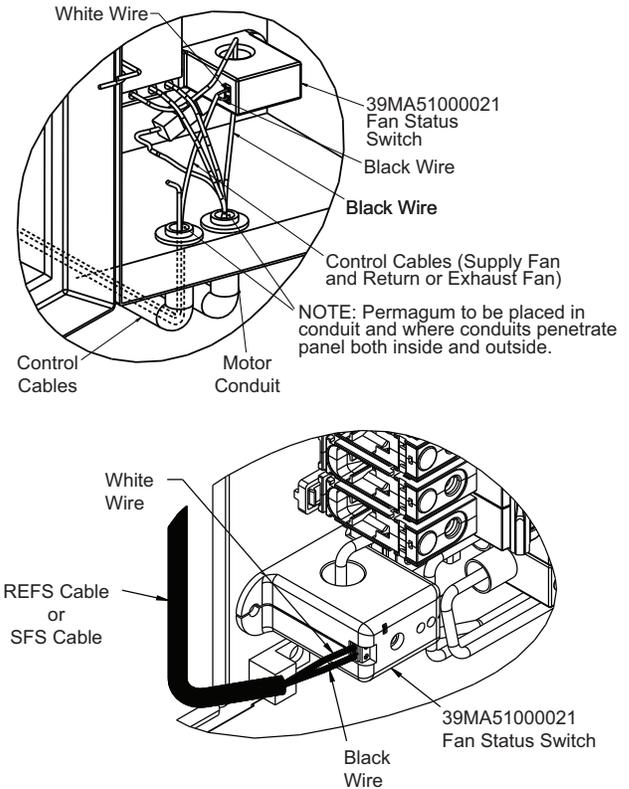

Fig. 21 – Fan Status Switch Installation
2. Loop (1 turn) “Black” wire from conduit assembly running into the starter/disconnect/VFD/bypass/ECM Fan Power Box from the motor through the sensor as shown in Fig. 21.
4. Connect the control wiring to the control connection terminals near the top of the fan status switch as shown in Fig. 21.